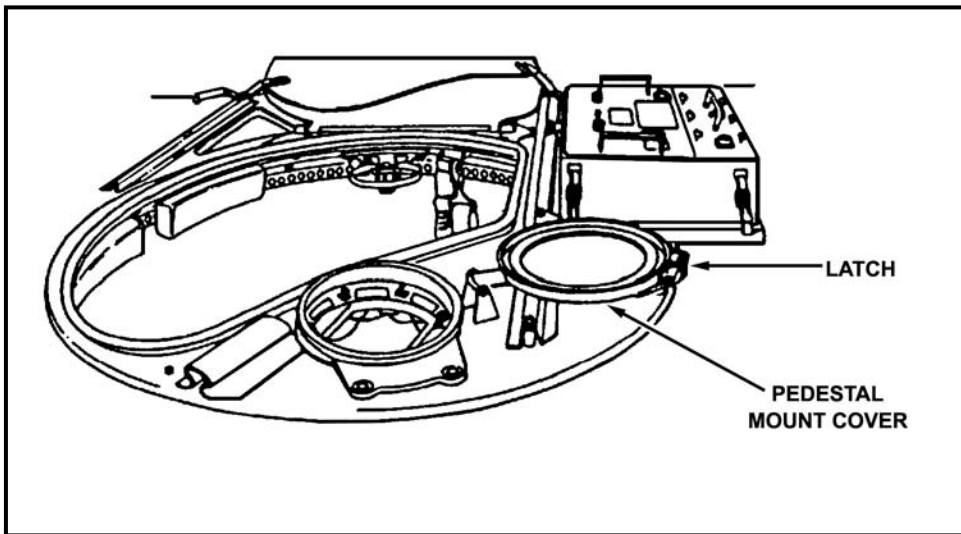
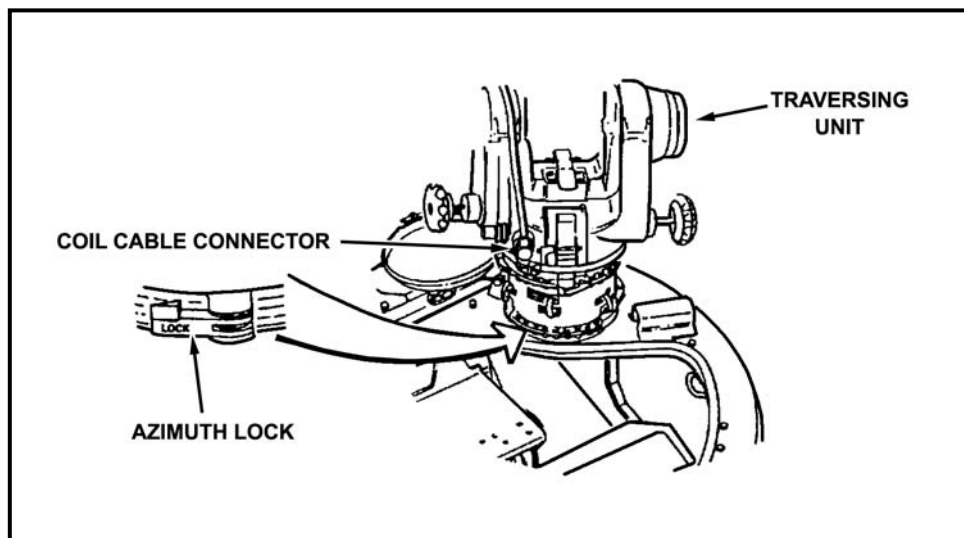

Figure 3-7. Pedestal mount cover and latch.
Figure 3-8. Coil cable connector.
(1) The gunner opens the pedestal mount cover and secures it (Figure 3-7, page 3-8).
(2) The gunner lifts the traversing unit with adapter attached from the stowage base and secures the traversing unit to the pedestal mount with the coupling clamp ensuring that the traversing unit azimuth lock is toward the rear of the vehicle.
(3) The squad leader pulls the coil cable out of its retaining cup and hands it to the gunner (Figure 3-8, page 3-9).